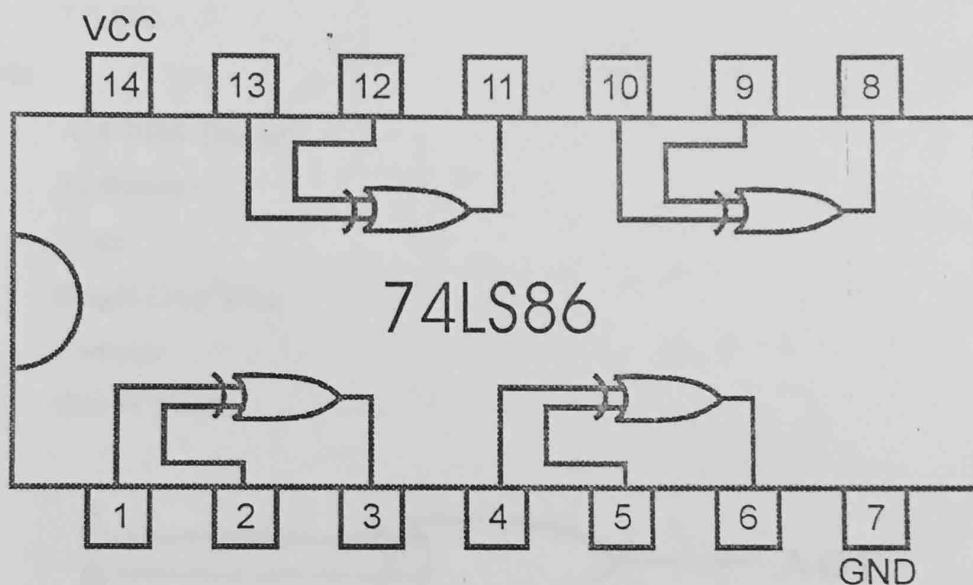

Figure 7.2
4. Wire the circuit according to the diagram in fig. 7.1 by consulting XOR gate IC's data sheet in fig. 7.2.